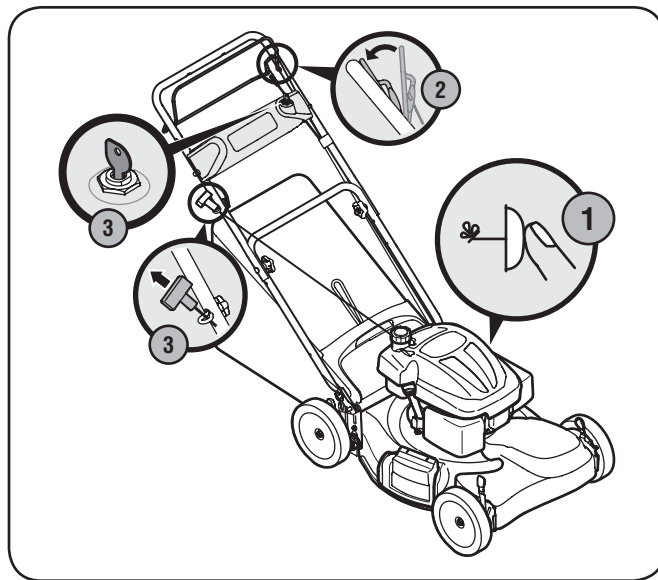

Figure 9-3
1. Push primer 3 times. Wait about two seconds between each push. See Fig. 9-3. In temperature below 50°F, prime 5 times. After the engine is warmed up, one prime may be needed for all temperatures.
3. **Recoil Start:** Pull the recoil starter lightly until resistance is felt, then pull rapidly to overcome compression, prevent kickback, and start the engine. Repeat if necessary. See Fig. 9-3.
Electric Start: Turn ignition key to the right to start the engine. Release the key after the engine starts. See Fig. 9-3.